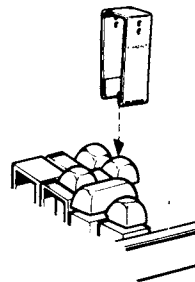

Fig. 5—Data Key Removal
- (b) To remove data keys, place 346260 tool over the key and pull up to remove (Fig. 5).